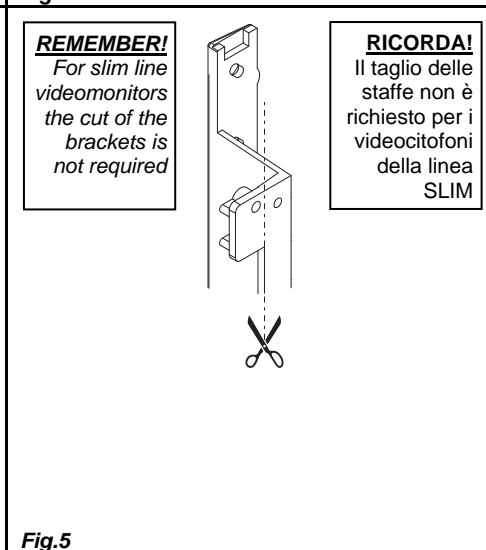

Fig.5
- Arrange the videophone "h" fixing to it the two brackets "i" using the 4 screws "l" as shown in figure 2. **If the videomonitor is not a slim line model**, first arrange the brackets by cutting their upper and lower sides as shown in figure 5 then, as described above, fix the brackets to the videomonitor as shown in figure 6;